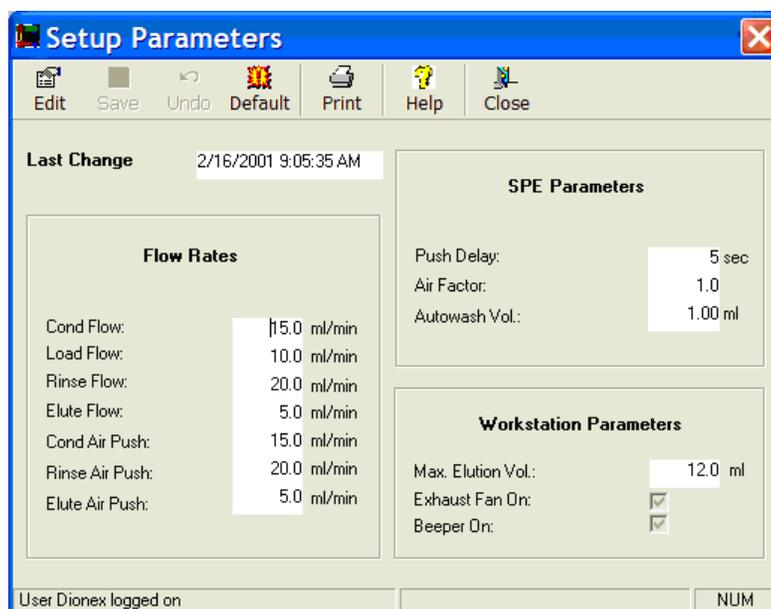

Figure 56. Setup Parameters Window
- 2 Click the **Edit** button. The Setup Parameters window opens, as shown in Figure 56.